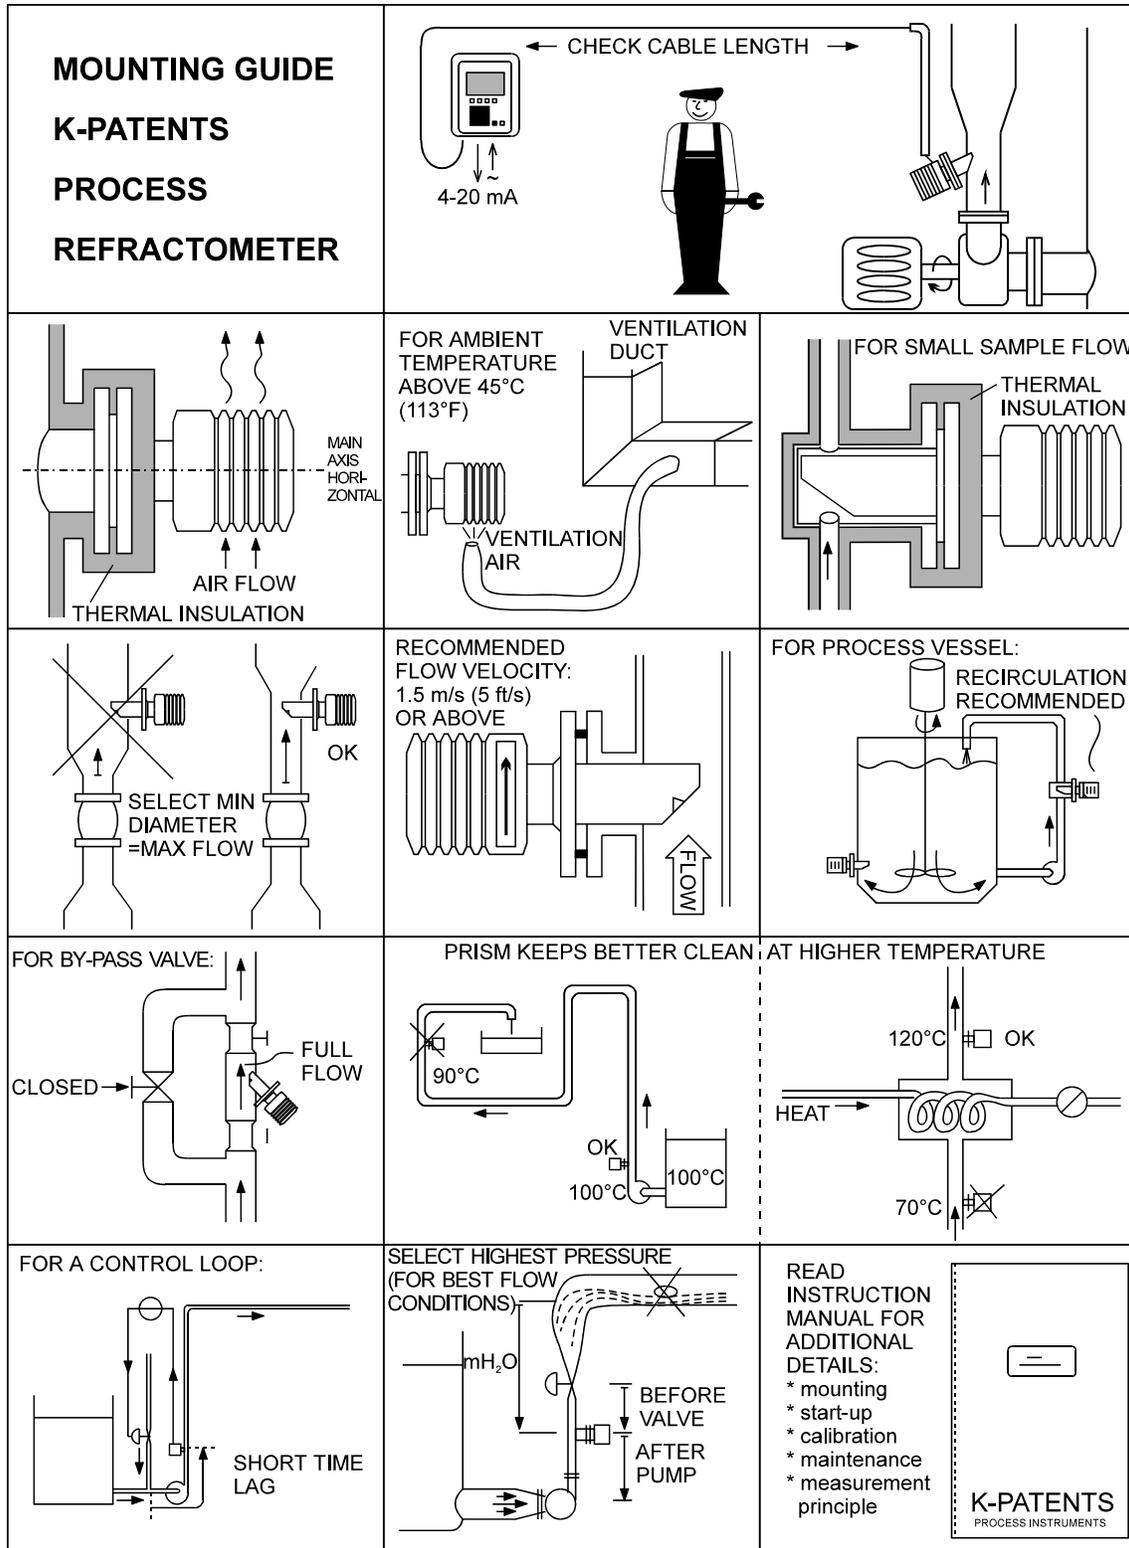

Figure 3.10 Mounting guide.
The sensor is delivered with a mounting guide attached, Figure 3.10.
1. The sensor should be mounted **with the main axis horizontal**, Figure 3.10.